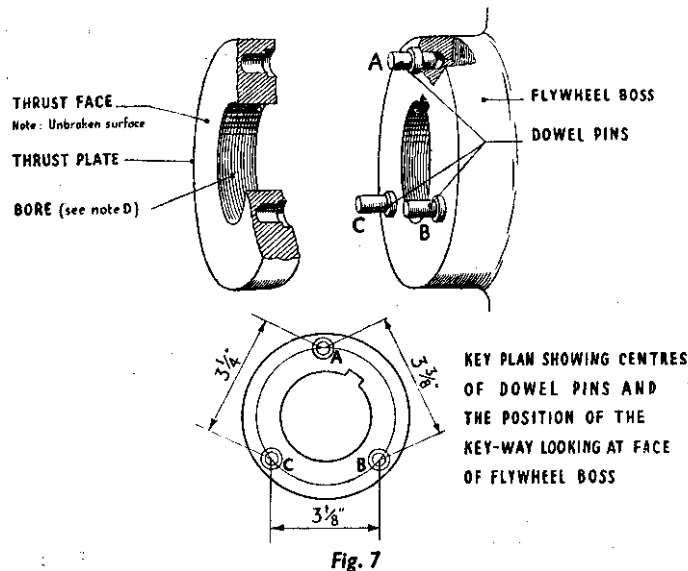

Fig. 7
- (b) The plate will only fit on the dowels one way—see key plan, Fig. 7.
This **MUST** be checked when fitting as if the plate is slack on the shaft the oil seal would be rendered useless (see Fig. 7).